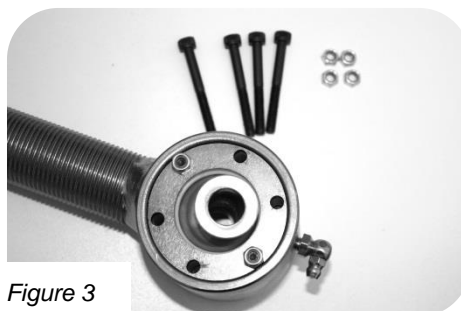

Figure 3
6. Insert the second thrust washer on top of the flex end housing, sliding the bolts through the holes. (Figure 3)